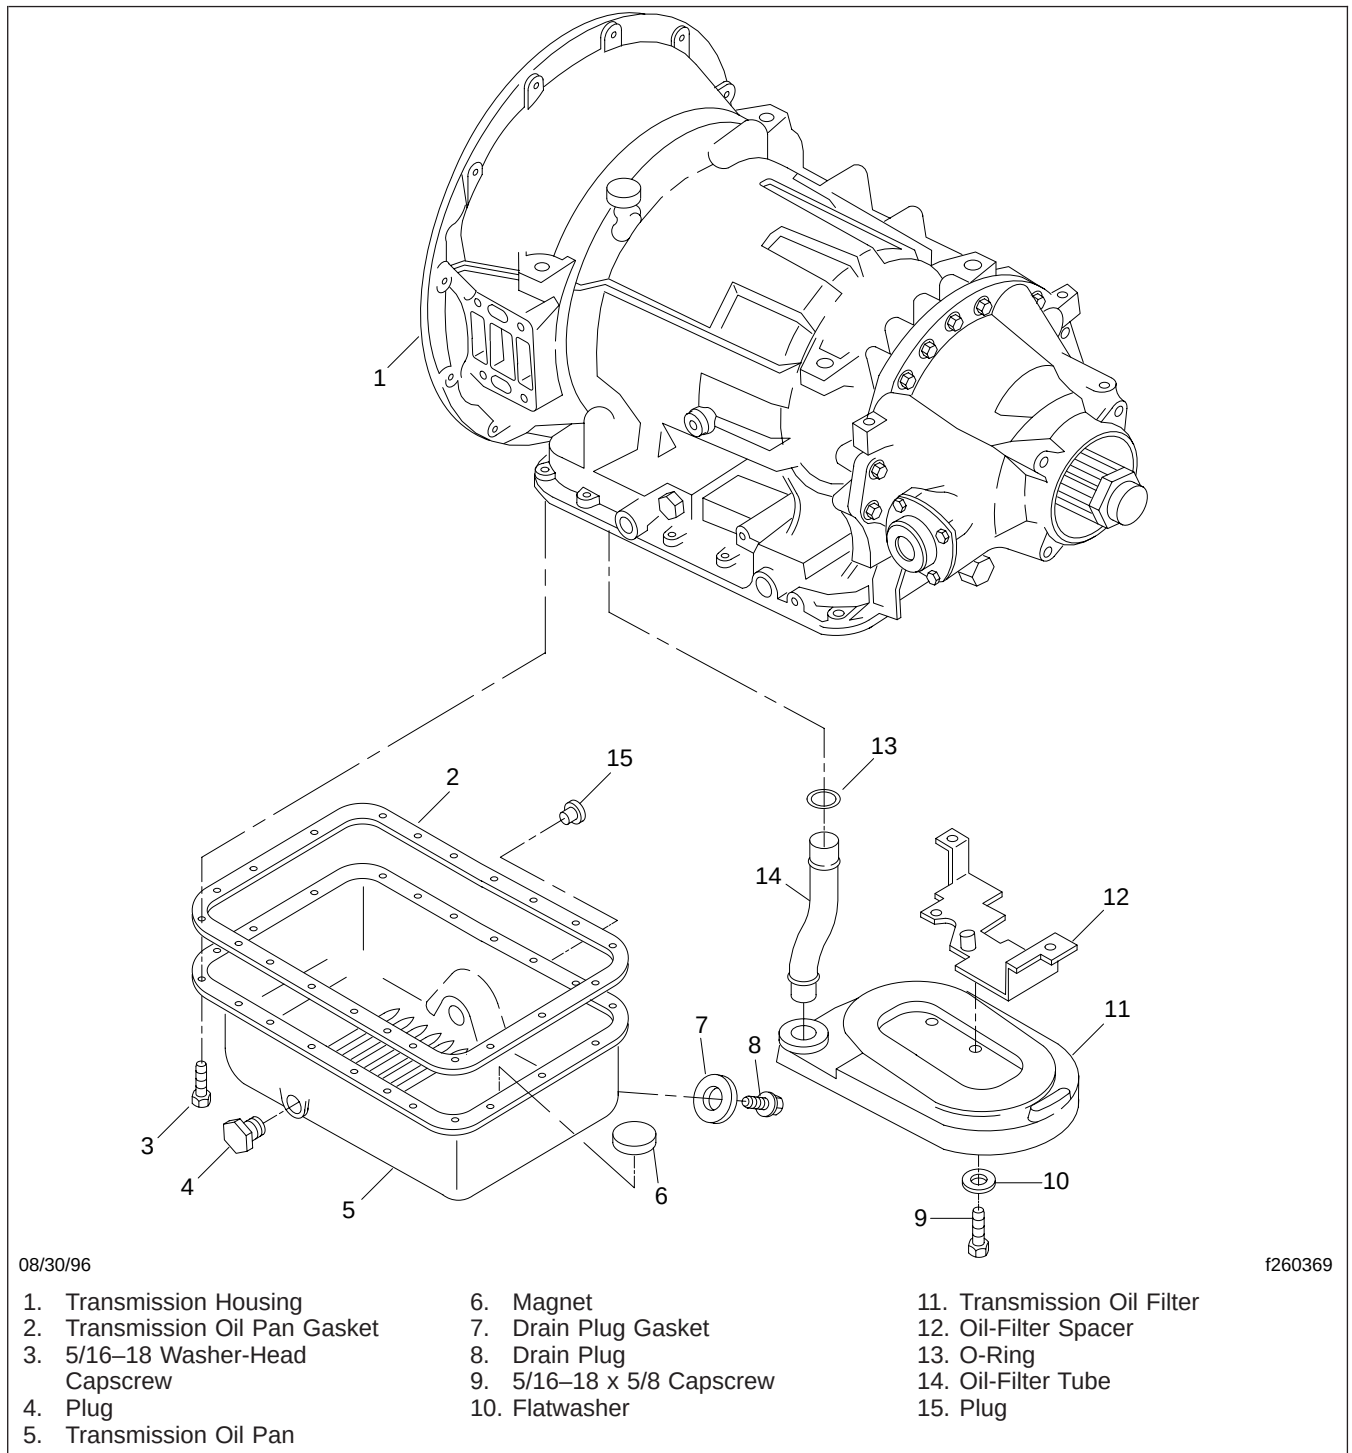

Fig. 8, Allison MT Series Transmission, Filter Removal
- Place a suitable container under the transmission, then remove the drain plug and gasket from the transmission oil pan. Allow the fluid to drain. See Fig. 8.